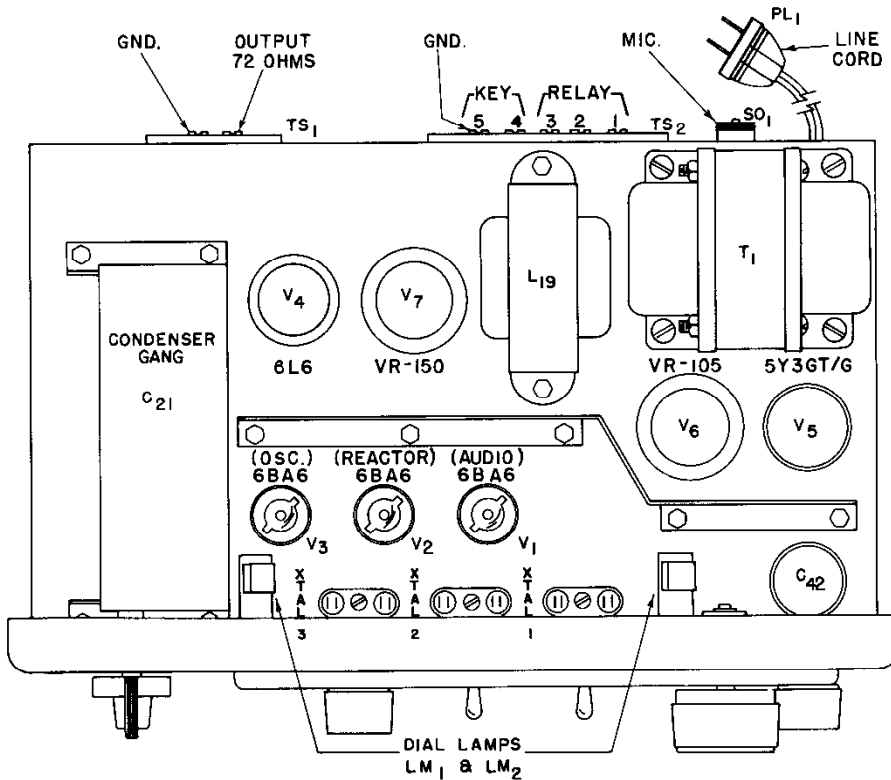

Figure 5. Top view of chassis, location of component parts
*Tube Complement*-Refer to Fig. 5. for tube location.